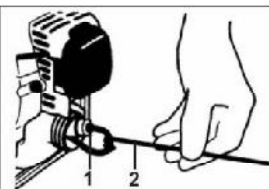

Fig.PP17
5. Use a wire hook to extract the fuel filter from inside the fuel tank (See Fig.PP17). Inspect the fuel filter element for signs of contamination. Replace it with a new one if required. Before reinstalling the filter, inspect the fuel line. If you find damage or deterioration, remove the unit from service until it can be inspected by a trained service technician.